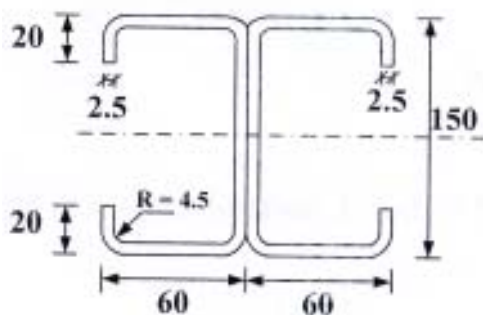

Fig. 8 (a)
8. a) Two channels (150×60) mm with bent lips are connectd with webs to act as column as show in Fig. 8 (a). Determine the safe load carrying capacity, if the effective length of column is 4.0 m. $F_y = 235 \text{ MPa}$ and $E = 200 \text{ GPa}$.